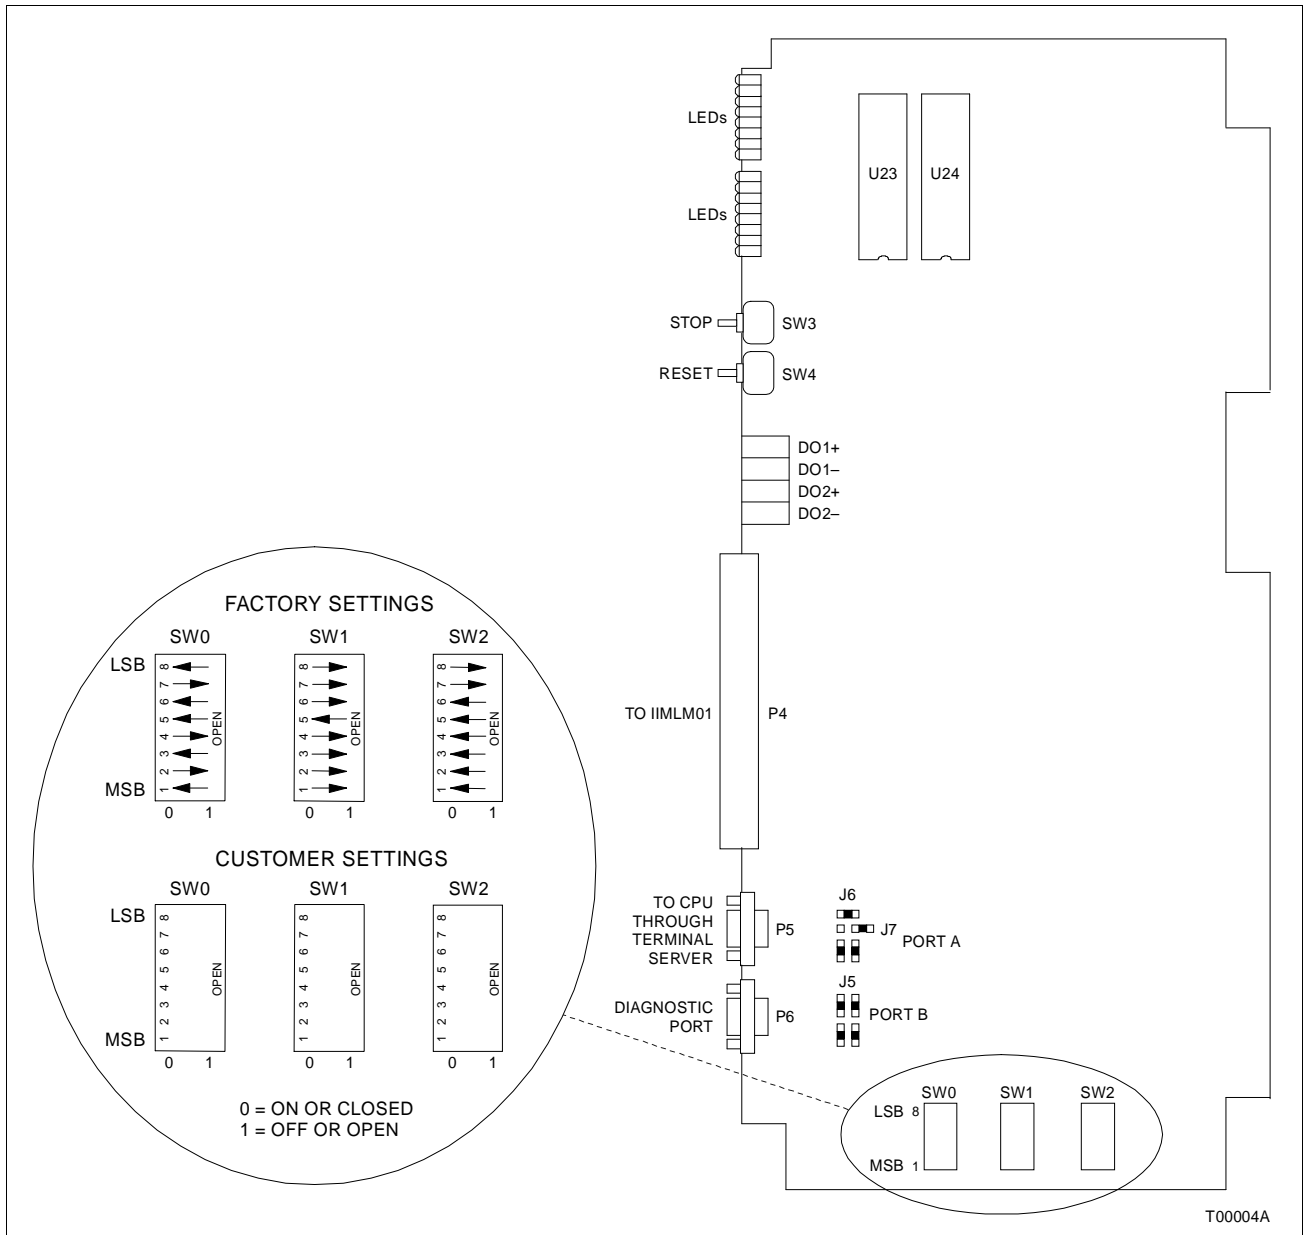

Figure PR34-3. IIMCP01 Module
- 6. Refer to Figure PR34-3 and Table PR34-1 and set the jumpers and switches as desired, filling in the customer settings in Figure PR34-3 and Table PR34-1.
NOTE: The settings shown in Figure PR34-3 and the bold entries in Table PR34-1 indicate factory default settings.